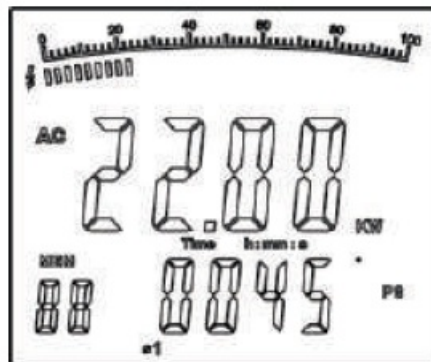

Figure 7
1. Press SEL to choose the first phase, see figure 7. The double displays show the active power kW value and the PG value of the second phase 1.